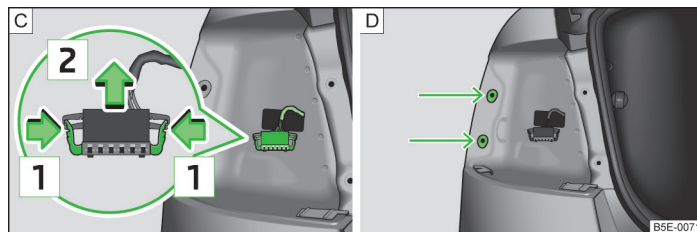

Fig. 220 Installing the lamp connector/lamp
- Press together the interlocks on the connector in the direction of the arrow [1] » Fig. 220 - [C].
- Insert the light vertically into the mounts on the bodywork » Fig. 220 - [D].